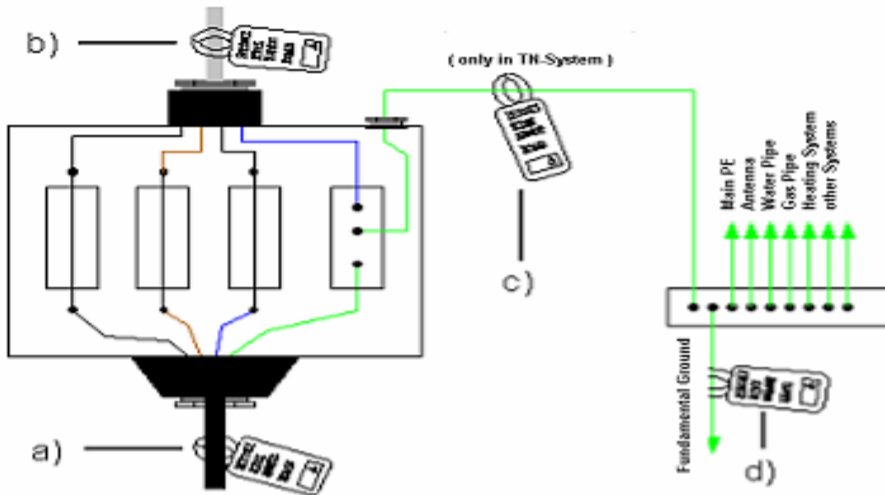

Figure 8 Measurements on the Service Entrance Box in the TN System
- All leads connected to the **EB** bar (see Realisation Part Page 11, Figure 8)
- On the leads to and from the service entrance box (see Page 11, Figure 8)